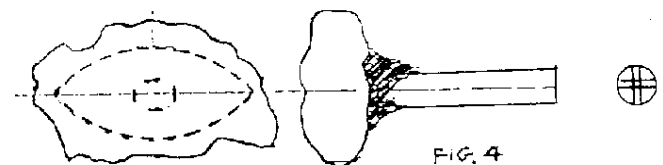

FIG. 4
2. Dop the rough so that the planned major and minor axes align reasonably well with the keying V-grooves on the back of the dop. [see fig.4]. Set the dopped stone aside.